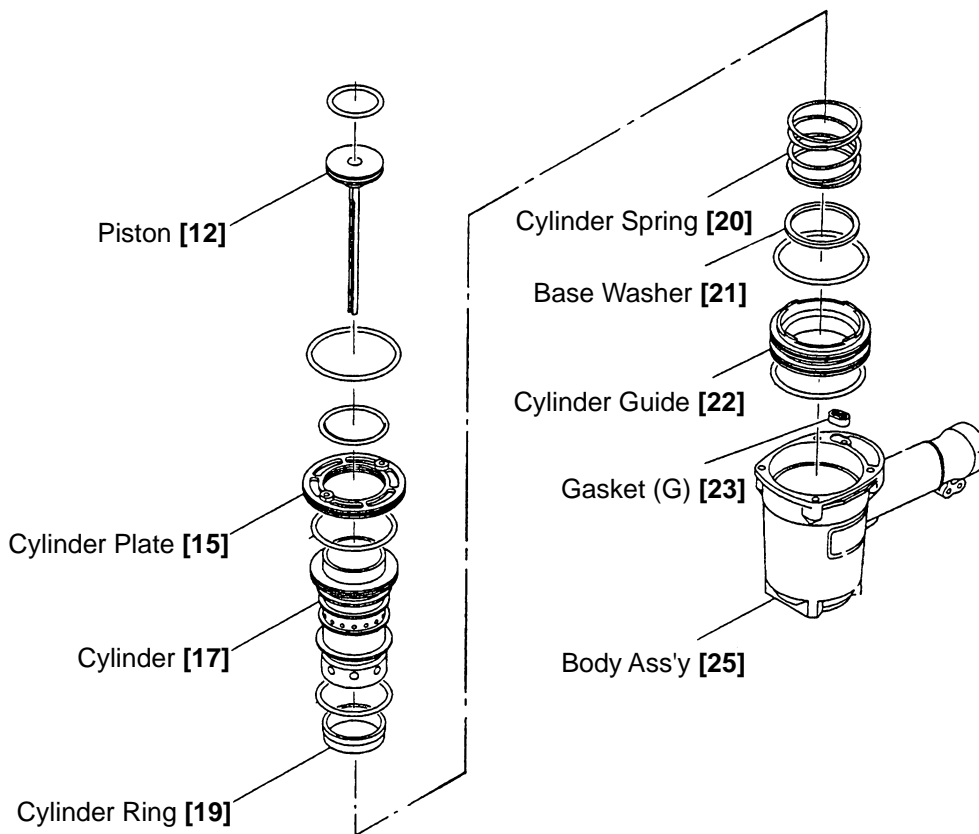

Fig. 10
- Gripping these two bolts, simultaneously turn and pull upward to remove the Cylinder Plate [15]. When this has been accomplished, the Cylinder [17] and other parts which make up the output section can be removed, as illustrated in Fig. 10.
- If it is difficult to remove the Cylinder [17], remove the Nose [32] by referring para. 10-2-(3) procedures, and push out the Cylinder [17] from the lower part of the main body.